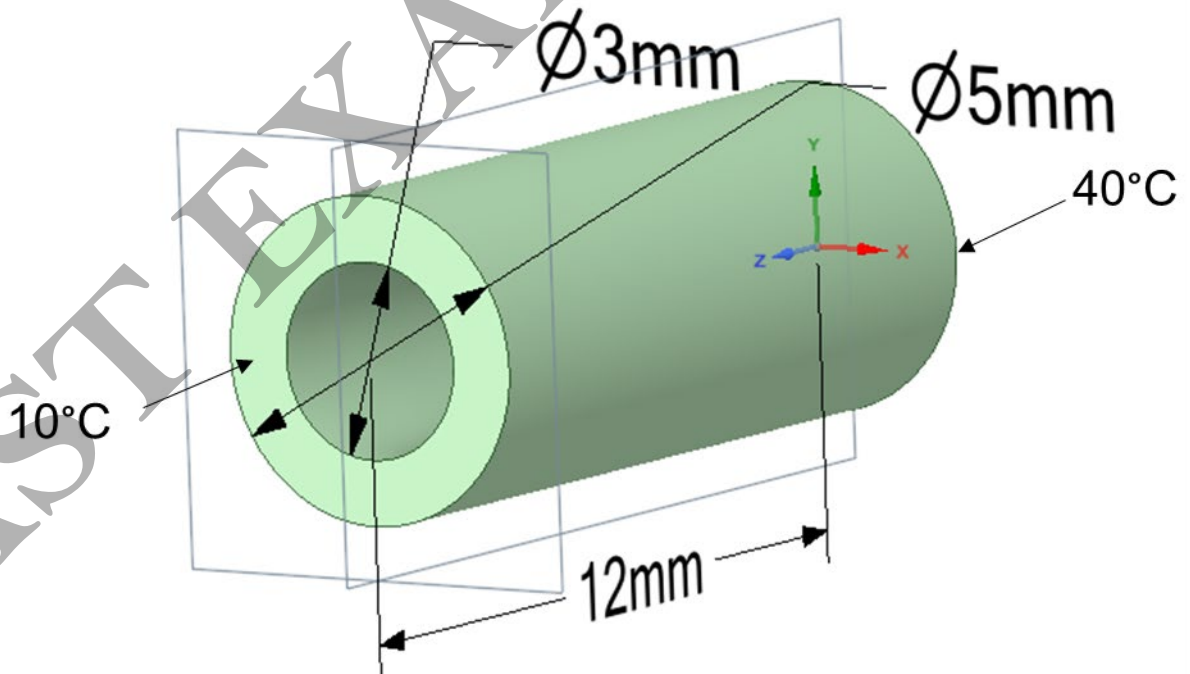

Figure Q2b: Dental implant with temperature boundary conditions.
- b) The lower cylinder of dental implant of length $L = 15\text{mm}$ is exposed to temperatures of $T_1=50\text{ }^\circ\text{C}$ at $z=0\text{ mm}$ and $T_2=10\text{ }^\circ\text{C}$ at $z=15\text{ mm}$ as is shown in **Figure Q2b**. Assuming that the thermal conductivity of Zirconia is 3 W/(m.K) .